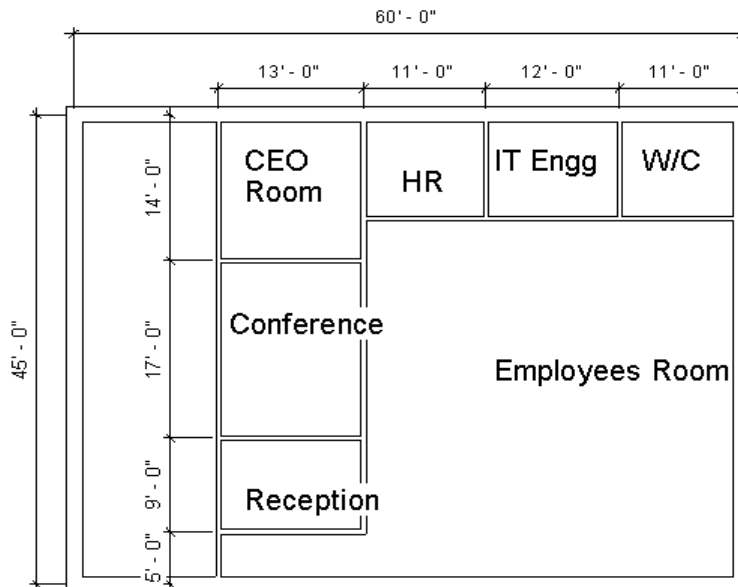

Figure 3-86 Other interior walls for the project
8. Similarly, sketch other walls, as shown in Figure 3-86.